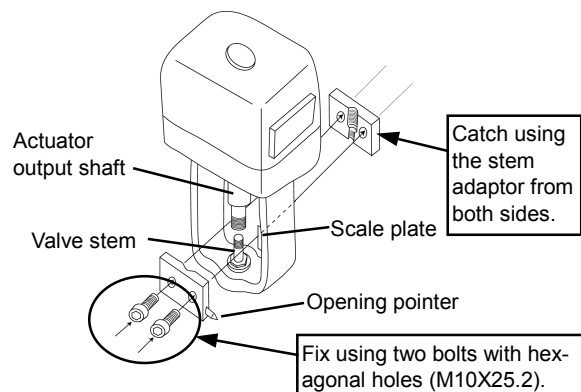

Figure 6
- 4 Connect the actuator output shaft and valve stem using the stem adapter (Figure 6).